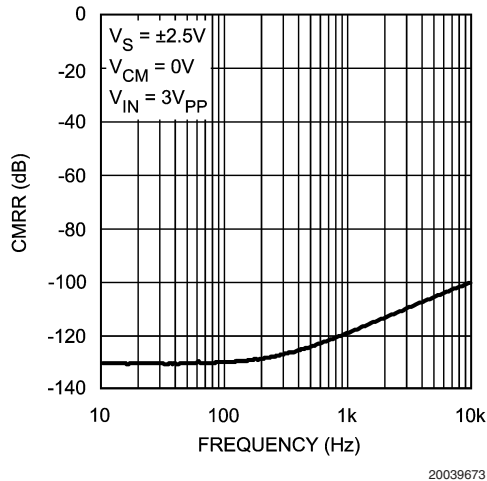

FIGURE 2. CMRR vs. Frequency
*Figure 2* shows typical CMRR characteristics of this Instrumentation amplifier over frequency. Three LMV771 amplifiers are used along with 1% resistors to minimize resistor mismatch. Resistors used to build the circuit are:  $R_1 = 21.6\text{k}\Omega$ ,  $R_{11} = 1.8\text{k}\Omega$ ,  $R_2 = 2.5\text{k}\Omega$  with  $K = 40$  and  $a = 12$ . This results in an overall gain of  $-1000$ ,  $-K(2a+1) = -1000$ .